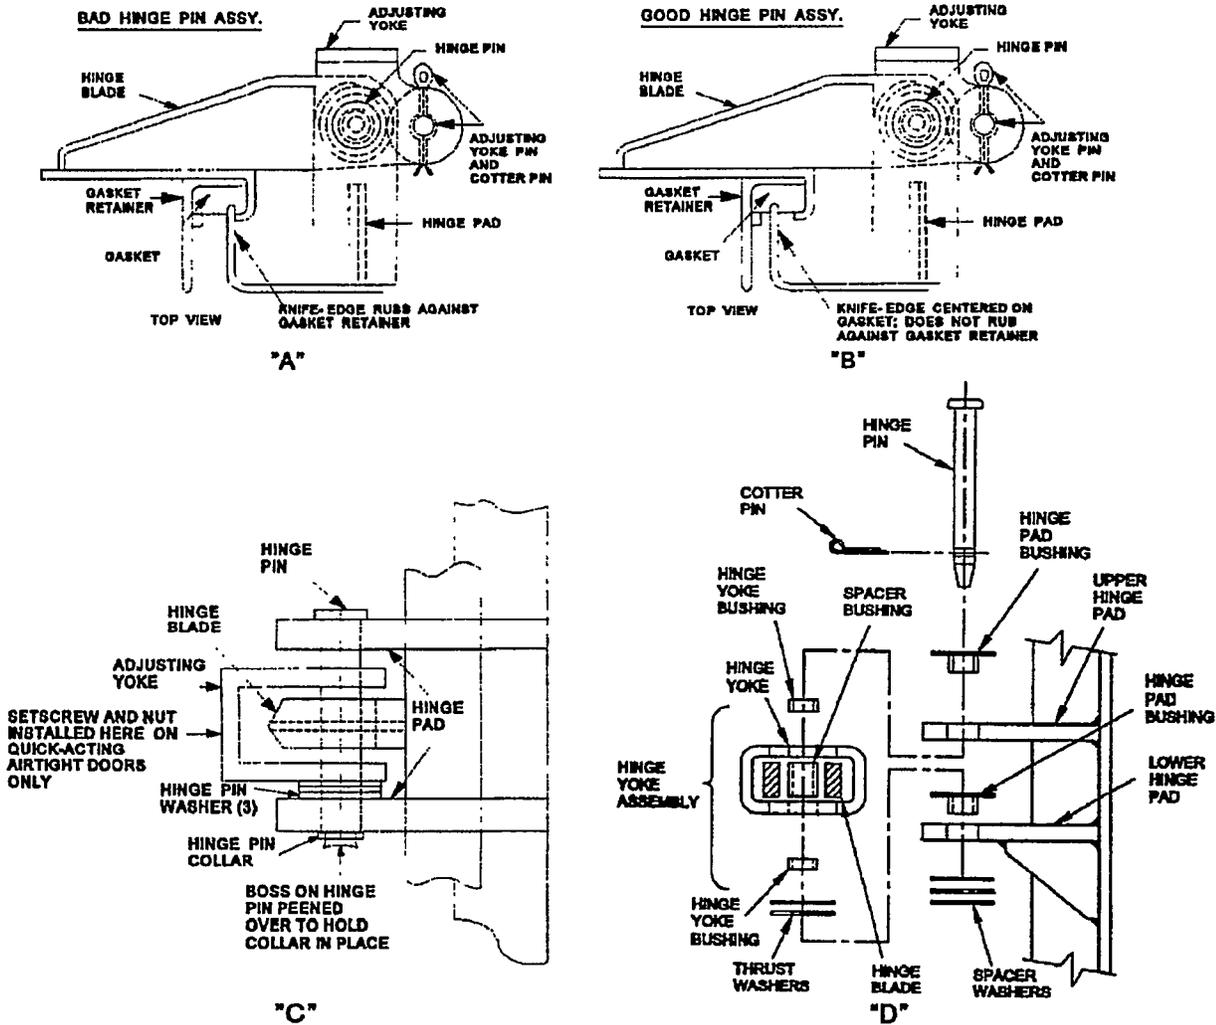

Figure 600-2.43. Hinge Pin Assemblies
600-2.3.3.6 Hinge Inspection. Visually inspect the hinge sleeves and hinge pins (on doors without Machinery Alteration (MACHALT) 167-31006 Engineering Change Proposal (ECP) 518 or MACHALT 167-31011 (ECP-538) installed) for wear. Visually inspect the hinge pad bushings, hinge yoke bushings, spacer bushing, and hinge pin (on doors with MACHALT 167-31006 (ECP-518) or MACHALT 167-31011 (ECP-538) installed) for wear. With the door opened, grasp the door from the hand lever side and push it toward the hinged side. The door should not give more than approximately 3/16 inch. If it does, either the hinge pins and/or washers are worn, or the holes for the hinge pins have become enlarged. Do not confuse hinge pin wear with normal play in the hinge blades. Another indication of hinge pin wear is if the metal channel surrounding the gasket on the door side is rubbing against the knife-edge, or if the door panel rubs one or more side dogs when opening or closing. (See figure 600-2.43, "A") A good hinge and alignment are illustrated in figure 600-2.43, "B." Replace the hinge pin washers and/or pins (on doors without MACHALT 167-3 1006 (ECP-518) or MACHALT 167-31011 (ECP-538) installed), or replace the hinge pad bushings, hinge yoke assembly, thrust washers, yoke pin spacer, and hinge pin (on doors with MACHALT 167-31006 (ECP-518) or MACHALT 167-31011 (ECP-538) installed), if any of the following conditions exist:
- d. The hinge pin washers (on doors without MACHALT 167-31006 (ECP-518) or MACHALT 167-31011 (ECP-538) installed) are worn thin to approximately 1/32 inch. New washers are 1/16 inch in thickness. See figure 600-2.43, "C". The thrust washers or the flange on the hinge pad bushings (on doors without MACHALT 167-31006 (ECP-518) or MACHALT 167-31011 (ECP-538) installed) are worn thin to approximately 1/32 inch. New thrust washers and the flange on new hinge pad bushings are 1/16 inch in thickness. See figure 600-2.43, "D".